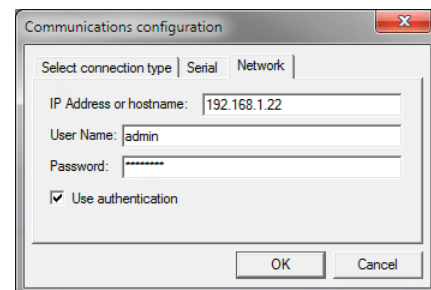

Figure 4-8. The Comms config popup
- c In the first tab, select the Network connection. The *Serial* option is used only for the standard Freedom II switch. See Figure 4-8.